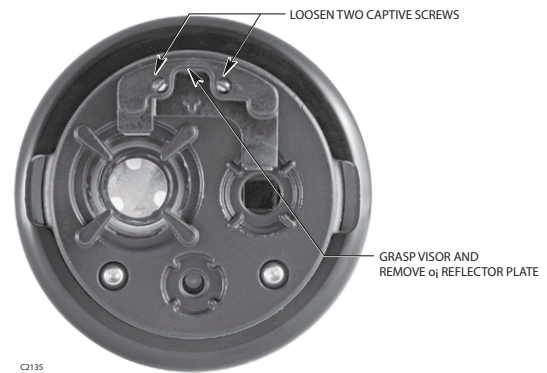

Figure 19—**oi** Reflector Plate Removal
2. Loosen the two captive screws, then grasp the **oi** reflector plate by the visor and remove it from the detector. See Figure 19.